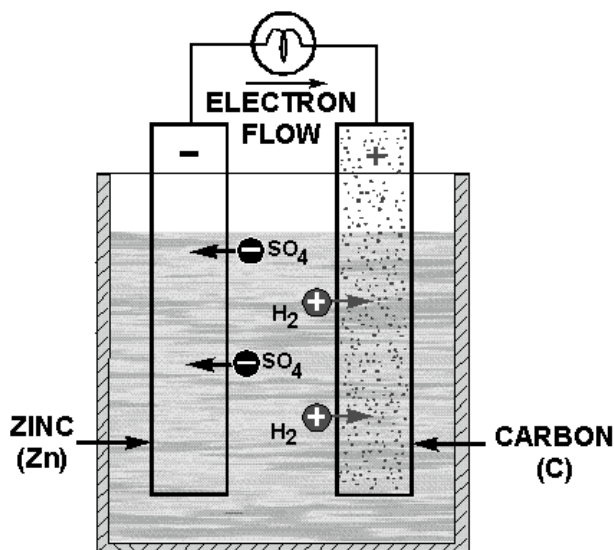

Figure 2-1.—Simple voltaic or galvanic cell.
A cell is a device that transforms chemical energy into electrical energy. The simplest cell, known as either a galvanic or voltaic cell, is shown in figure 2-1. It consists of a piece of carbon (C) and a piece of zinc (Zn) suspended in a jar that contains a solution of water ( $H_2O$ ) and sulfuric acid ( $H_2SO_4$ ) called the electrolyte.
The current flow through the load is the movement of electrons from the negative electrode of the cell (zinc) and to the positive electrode (carbon). This causes fewer electrons in the zinc and an excess of electrons in the carbon. Figure 2-1 shows the hydrogen ions ( $H_2$ ) from the sulfuric acid being attracted to the carbon electrode. Since the hydrogen ions are positively charged, they are attracted to the negative charge on the carbon electrode. This negative charge is caused by the excess of electrons. The zinc electrode has a positive charge because it has lost electrons to the carbon electrode. This positive charge attracts the negative ions ( $SO_4$ ) from the sulfuric acid. The negative ions combine with the zinc to form zinc sulfate. This action causes the zinc electrode to be eaten away. Zinc sulfate is a grayish-white substance that is sometimes seen on the battery post of an automobile battery.
In figure 2-1 you will notice that the zinc electrode is labeled negative and the carbon electrode is labeled positive. This represents the current flow outside the cell from negative to positive.